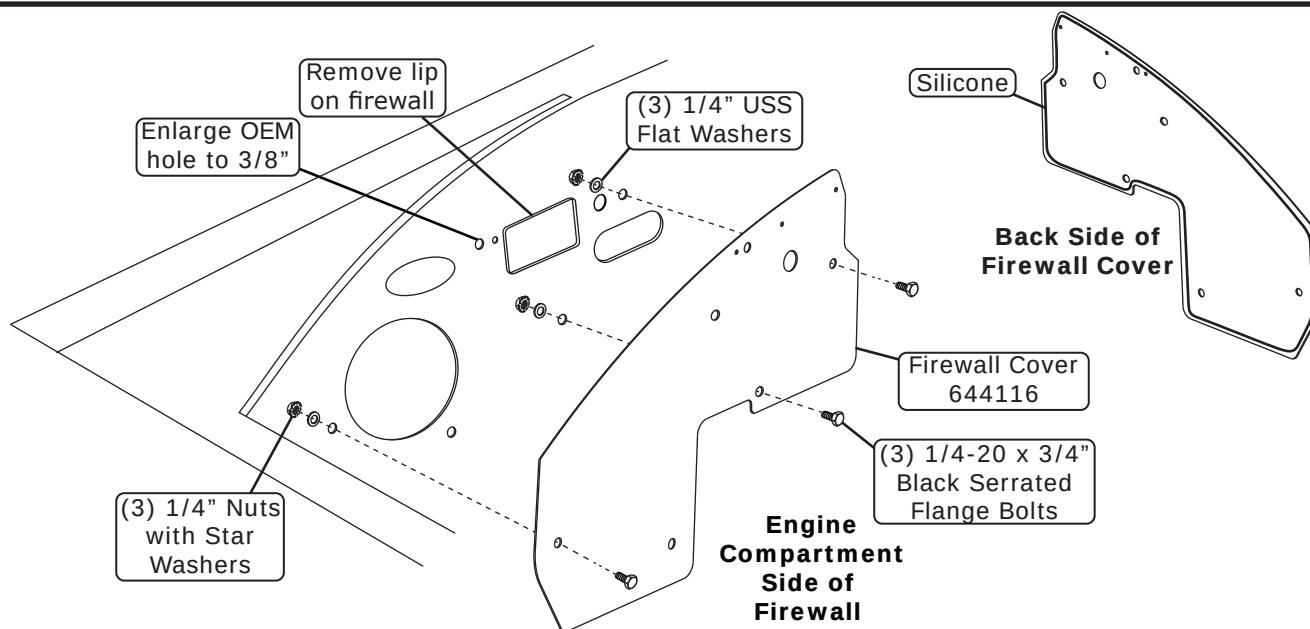

Figure 1
3. Apply a 1/4" bead of silicone around the back side of the firewall cover as shown in Figure 1, below.
4. From the engine compartment, install firewall cover onto the firewall and secure to the firewall using (3) 1/4-20 x 3/4" black serrated flange bolts, (3) 1/4" USS flat washers and (3) 1/4-20 hex nuts with star washers as shown in Figure 1, below.